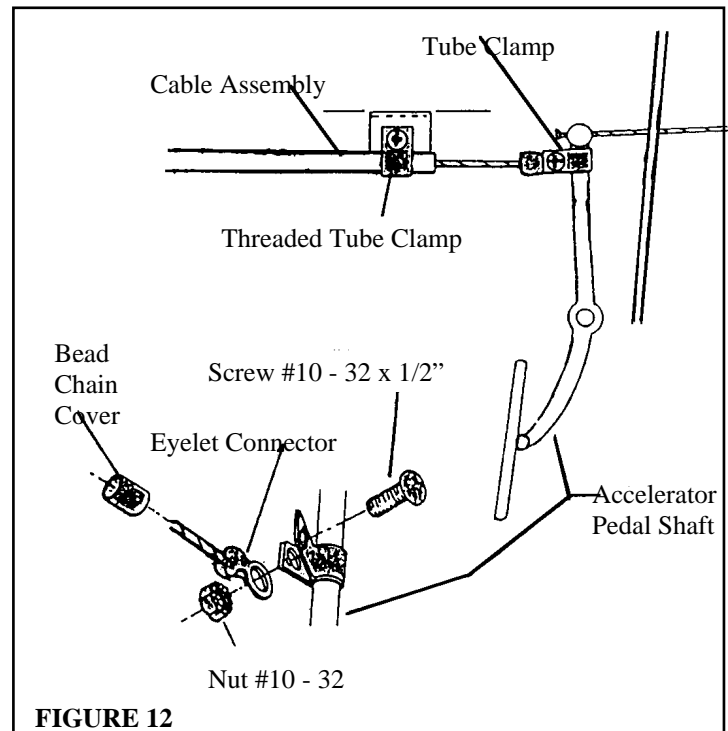

FIGURE 12
4. Put **Screw #10-32 x 1/2** through the holes in the **Tube Clamp**. Slide the **Eyelet Connector** over the **Screw**. Thread **Nut #10-32** onto the **Screw** and tighten. (Figure 12)